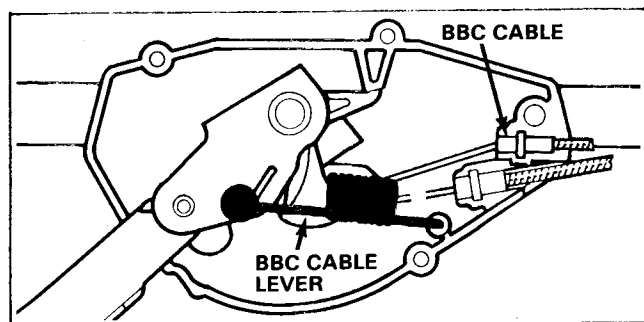

Figure 99
6. Slip the end of the BBC cable from the cable lever and remove the cable. See Figure 99.
1. Slide a new BBC cable into the BBC cable lever then install the end of the cable sheath in recess provided in the left control housing half. See Figure 99.